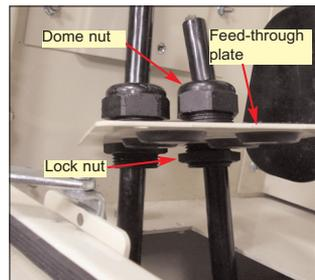

Fig. 20
- Select the compression fitting that most nearly fits the cable to be installed. The fittings are included in the ship-along hardware. Loosen, or if needed remove, the dome nut on the compression fitting to allow the cable to fit through the internal sealing ring (Fig. 20).